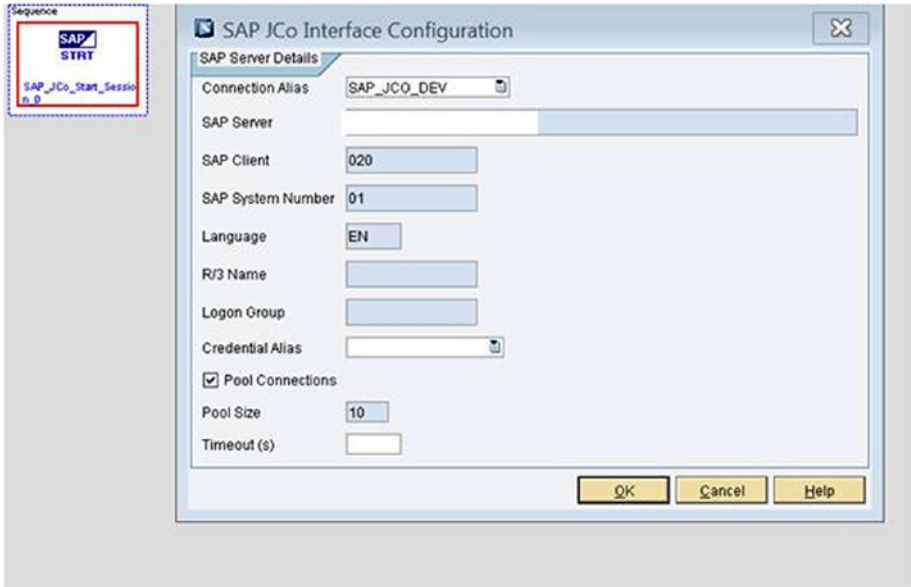

Figure 7-169. JCo Start Session action block and its configuration
- *SAP JCo Start Session:* This action opens a session between SAP MII and SAP ERP Central Component (SAP ECC). See Figure 7-169.